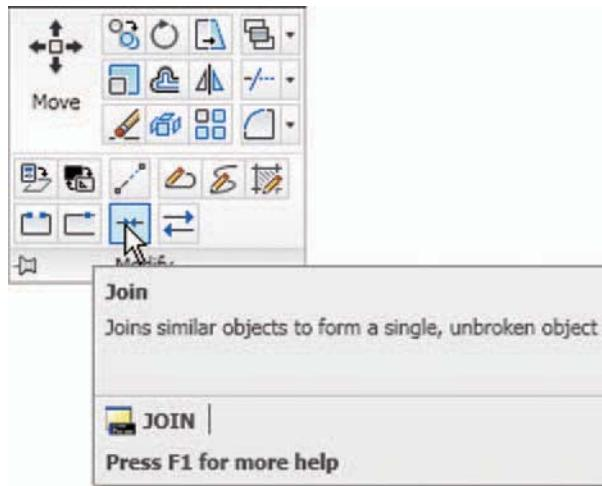

Fig. 5.37 The **Join** tool icon from the Home/Modify panel
2. Call the **Join** tool – either *click* on the **Join** tool icon in the **Home/Modify** panel (Fig. 5.37), *left-click* its tool icon in the **Modify** toolbar, select **Join** from the **Modify** drop-down menu, or *enter join* or **j** at the command line. The command line shows: